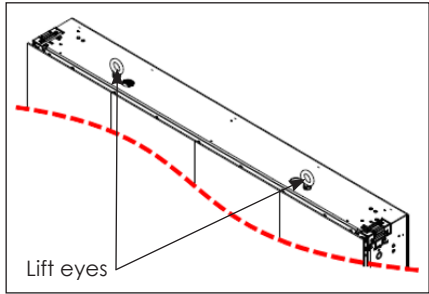

Figure 1: Install Lift Eyes
- 2. Install the M12 lift eyes supplied with the display hardware into the designated locations on the cabinet. Refer to Figure 1 and the DVX/DVS-32XX Series Section Basics Quick Guide (DD5549384).